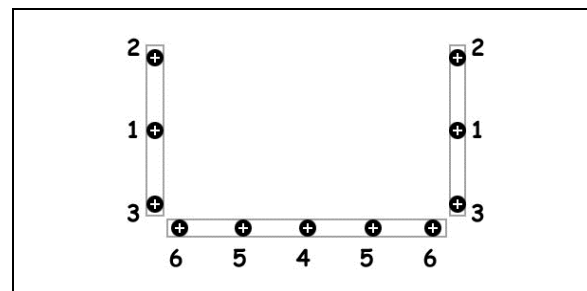

FIGURE 72 : CORRECT TIGHTENING SEQUENCE
- While a helper is pressing on the window from outside, install the awning window clamping frame and tighten screws according to the sequence shown in FIGURE 72;